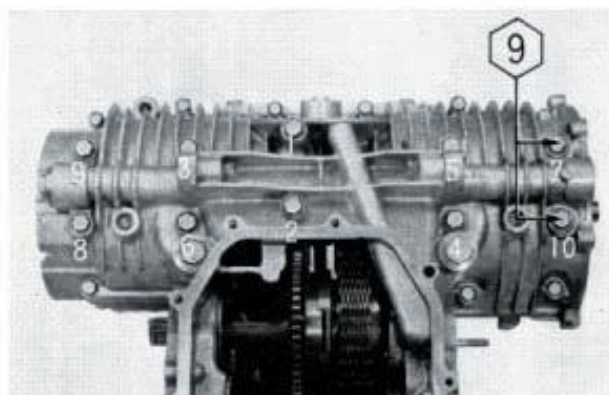
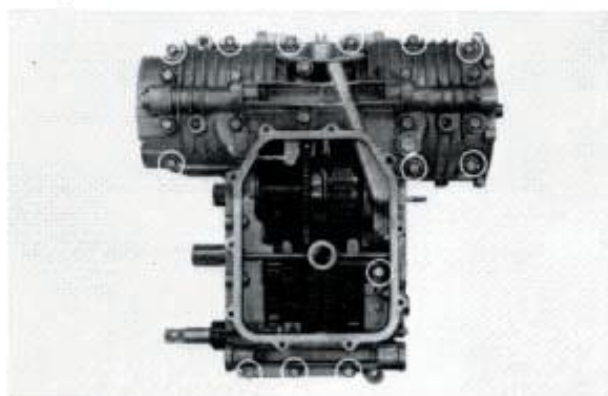

Fig. 151 8 mm mounting bolts
Fig. 152 6 mm mounting bolts
8. Unscrew ten 8 mm bolts and twelve 6 mm bolts from the lower crankcase. Loosen the 8 mm bolts in the reverse order shown in Fig. 151.
Cut a length of plasti gauge to the width of the bearing cap. Place the gauge on the bearing parallel to the crankshaft, assemble the crankshaft and torque down the crankcase in accordance with Fig. 151.
1. Remove the bearing, assemble and tighten the upper and lower crankcases. Refer to Fig. 151.
6. Place the engine upside down so as not to separate the parting surfaces by holding them by hands and install the ten 8 mm bolts. Torque the 8 mm bolts in the sequence shown in Fig. 151 to a torque of **2.3-2.5 kg-m. (16.63-18.08 lbs-ft)**. Next, tighten thirteen 6 mm bolts. (Fig. 152)